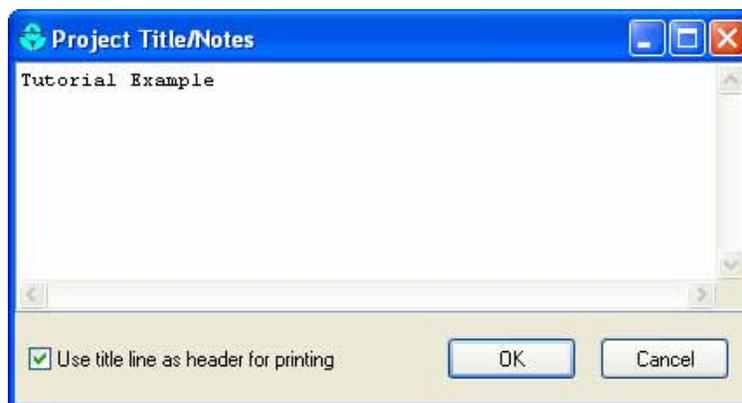

Figure 2-8. Title/Notes Editor.
2. In the Project Title/Notes dialog that appears (see Figure 2-8), enter "Tutorial Example" as the title of our project and click the **OK** button to close the dialog.